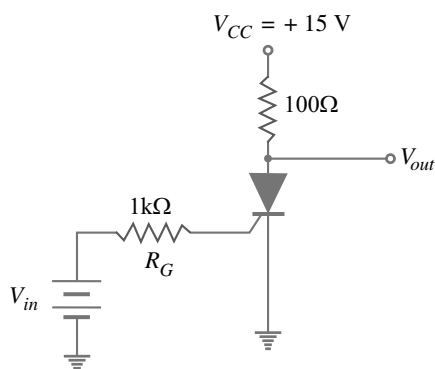

Fig. 18.28
**Example 18.16.** The SCR of Fig. 18.28 has gate trigger voltage  $V_{GT} = 0.7\text{V}$ , gate trigger current  $I_{GT} = 7\text{ mA}$  and holding current  $I_H = 6\text{ mA}$ .